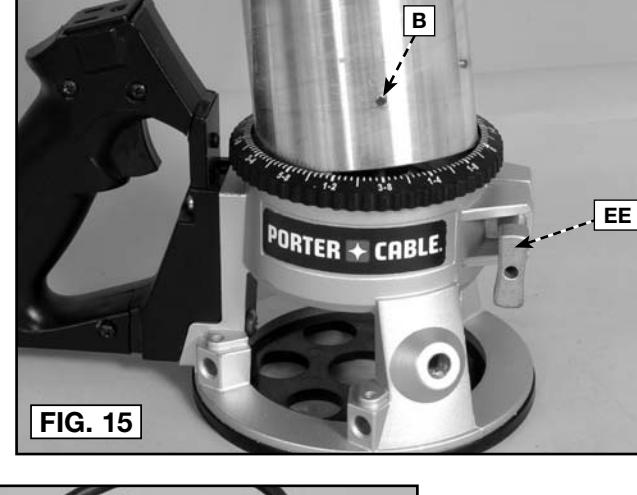
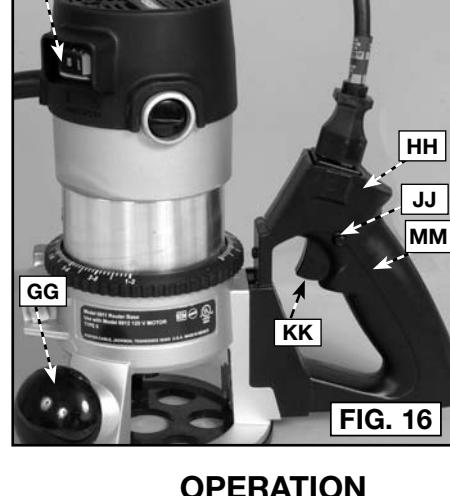

FIG. 15
FIG. 16
- Loosen the clamp screw (EE) Fig. 15 to set the power unit in the base unit.
- Insert the motor unit into the base aligning the lower pin (B) with the groove in the base.
- Rotate the motor unit into the base clockwise until the motor switch (FF) Fig. 16 is directly above the knob handle (GG).
- Connect the motor unit cord to the outlet in handle (HH) Fig. 16.
Check to see that the motor unit power cord (II) Fig. 16 is plugged into the handle, and that the switch (FF) on the motor is set to the "ON" position. The starting and stopping of the motor is then controlled by pressing and releasing the trigger switch (KK) Fig. 16 in the handle of the base.